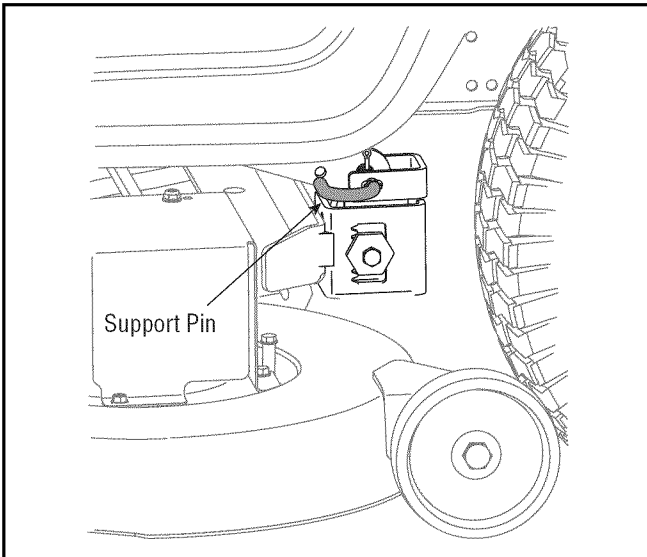

Figure 16
- Looking at the cutting deck from the left side of the tractor, locate the deck support pin on the rear left side of the deck. See Figure 16.